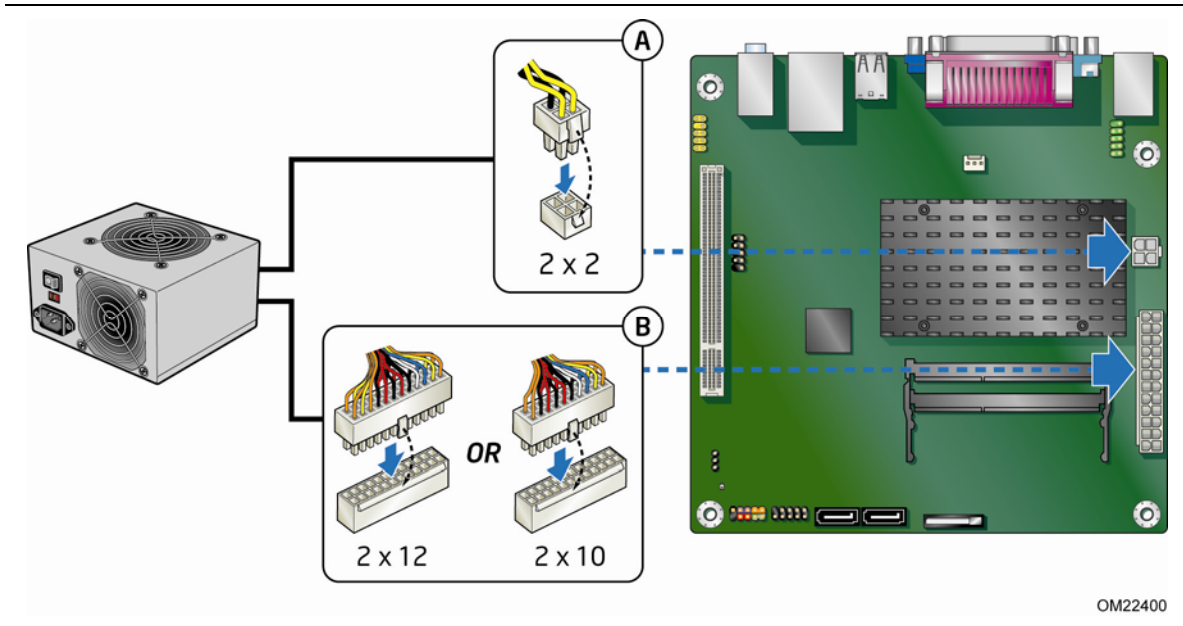

Figure 11. Connecting Power Supply Cables
Figure 11 shows the location of the power connectors.
2. Connect the main power supply cable to the 2 x 12 pin connector (Figure 11, B).
3. Connect the 12 V processor core voltage power supply cable to the 2 x 2 pin connector (Figure 11, A).